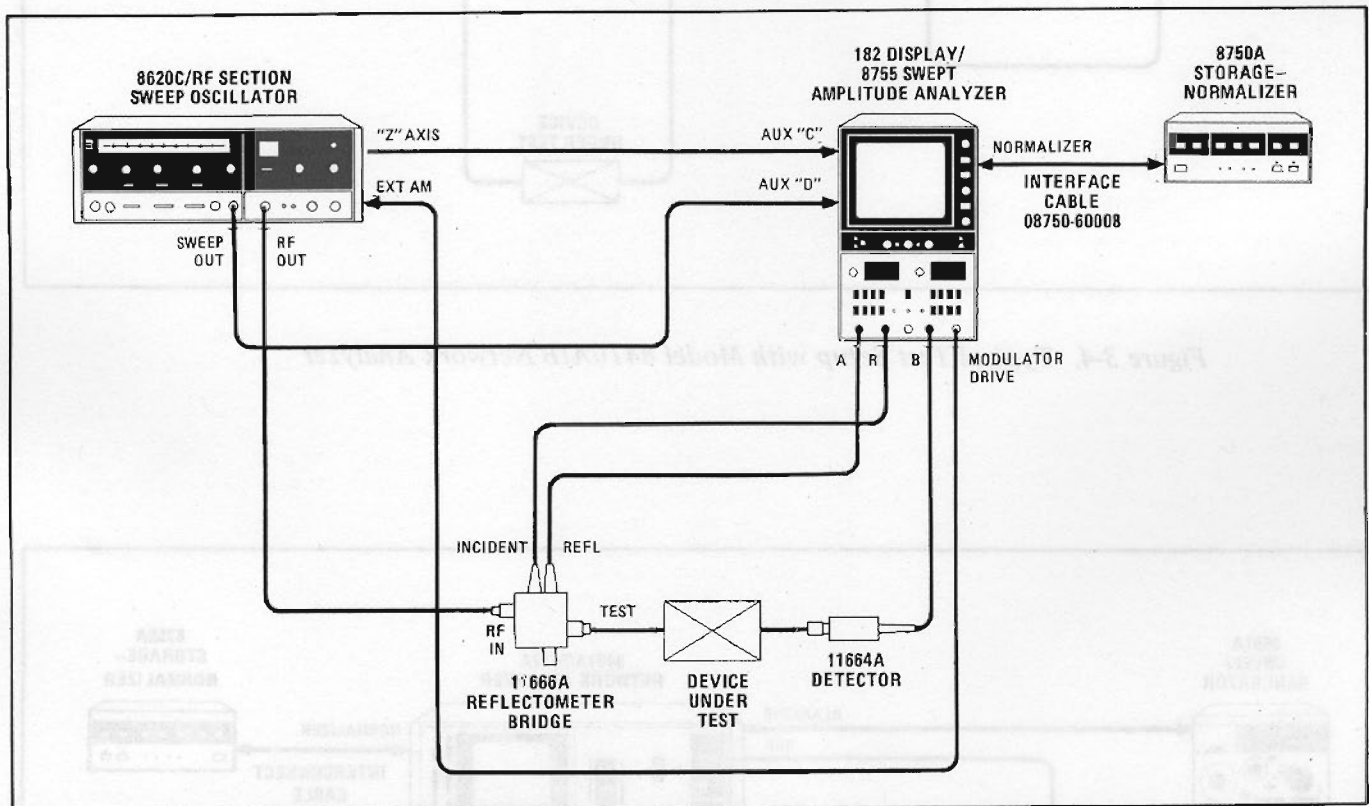

Figure 3-3. Typical Test Setup with Model 8755B Network Analyzer
1. Connect equipment as shown in Figure 3-3, 3-4, or 3-5.
3-6. The following procedure functionally tests the 8750A. This procedure may be used for incoming inspection or for an operators check to be assured that the major functions of the instrument are working correctly. Use one of the test setups in Figure 3-3, 3-4, or 3-5 and adjust the sweep oscillator for START/STOP sweep mode.